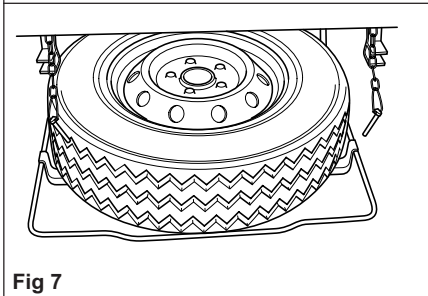

Fig 7
- Lower the frame and wheel to the floor (Fig 7).